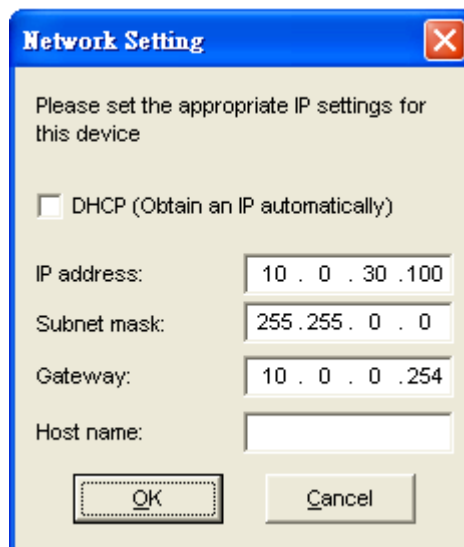

Figure 3.2 Static IP setup dialog window
- >Enter the desired network settings in the **“Network Settings”** window (Figure 3.2).